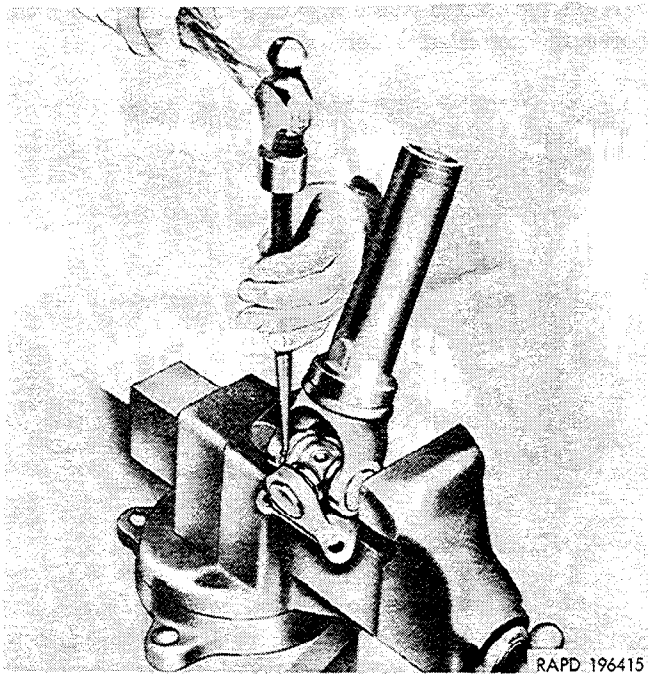

Figure 2-130. Removing bearing snaprings.
(1) Place the universal joint in a vise and compress the two bearings sufficiently to remove the two snaprings (fig. 2-130). Change the position of the joint in the vise and remove the other two snaprings.